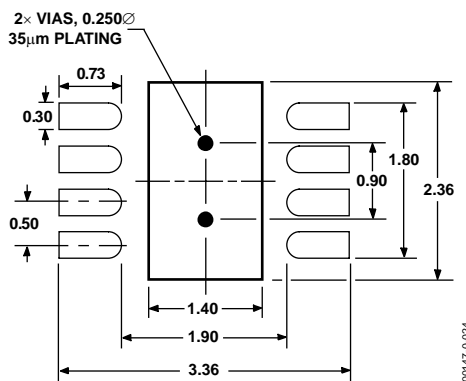

Figure 25. 3 mm × 3 mm LFCSP Pad Pattern
1. The pad pattern is given in Figure 25. The pad dimension should be followed closely for reliable solder joints, while maintaining reasonable clearances to prevent solder bridging.
2. The thermal pad of the LFCSP package provides a low thermal impedance path (approximately 20°C/W) to the PCB. Therefore, the PCB must be properly designed to effectively conduct heat away from the package. This is achieved by adding thermal vias to the PCB, which provide a thermal path to the inner or bottom layers. See Figure 25 for the recommended via pattern. Note that the via diameter is small to prevent the solder from flowing through the via and leaving voids in the thermal pad solder joint.